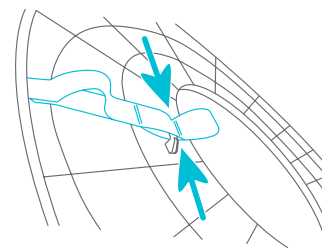

Fig. 4c
- **Tabletop Straps:** Underneath the tabletop, put the strap into the storage slot. Pinch the strap and put the second hoop into the tabs. Repeat for the other 2 straps (Fig. 4c).